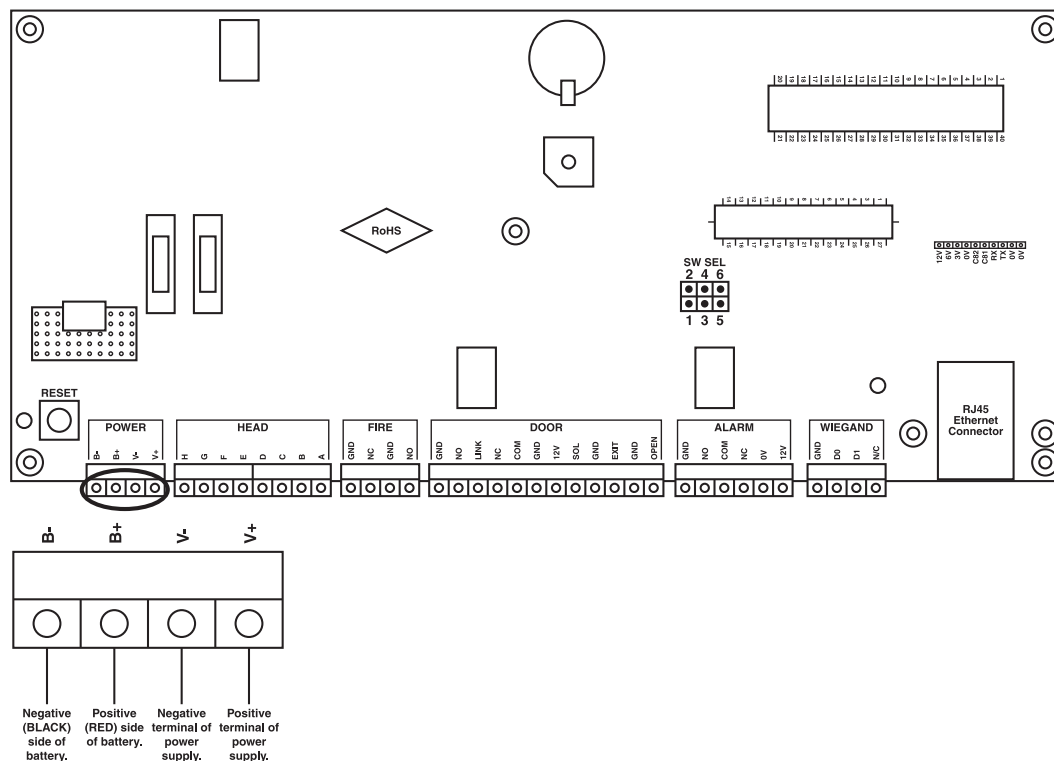

Figure 3-2. Connecting the power source to the control unit.
3. Reconnect the battery as shown in Figure 3-2.